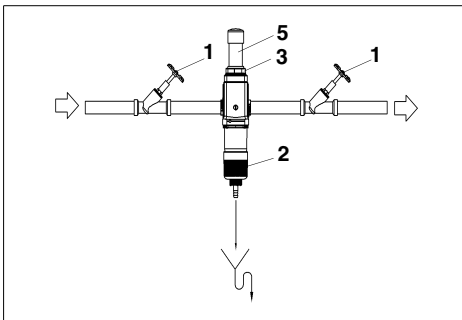

Fig. 14: Cartridge exchange IV
6. Screw in the union nut (3) clockwise and tighten it hand-tight (approx. 1 Nm) (see fig. 14).
7. Turn the handwheel for backwashing (2) clockwise all the way to the stop.
8. Open the shut-off valves (1) again.